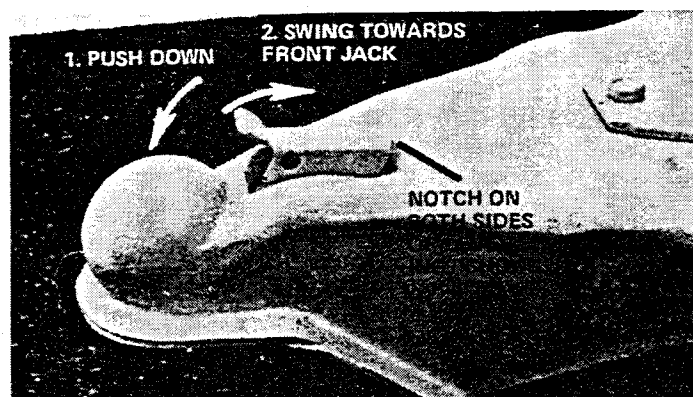

FIG. 3
Push the coupler lever down (1) and back (2) to its fullest extent (FIG. 3). Lower the coupler onto the ball. Secure connection by pushing lever forward (3). The two notches at the rear of the lever must rest on top of the coupler. Insert a locking device through the coupler lever and the bracket holes. You may purchase a locking device from your Coachmen Dealer.
unfasten the coupler from the hitch ball (FIG. 3).